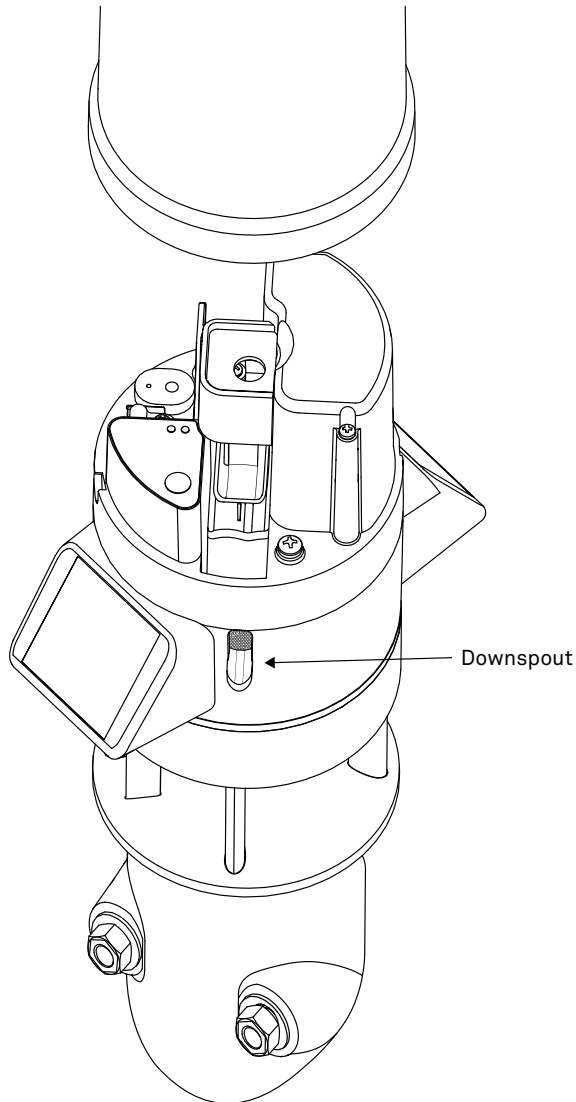

Figure 39 Downspout
- c. Check the downspout (Figure 39) for debris.